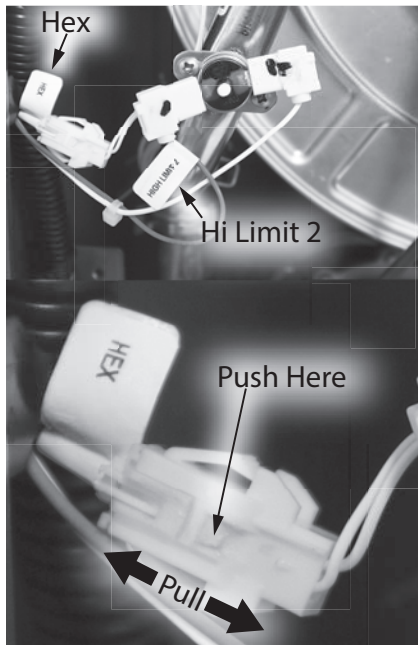

Figure 46 - Second wiring harness bundle location
**8** Locate and disconnect the "HI LIMIT 2" wire leads and "HEX" thermistor wiring harness shown in Figure 46.